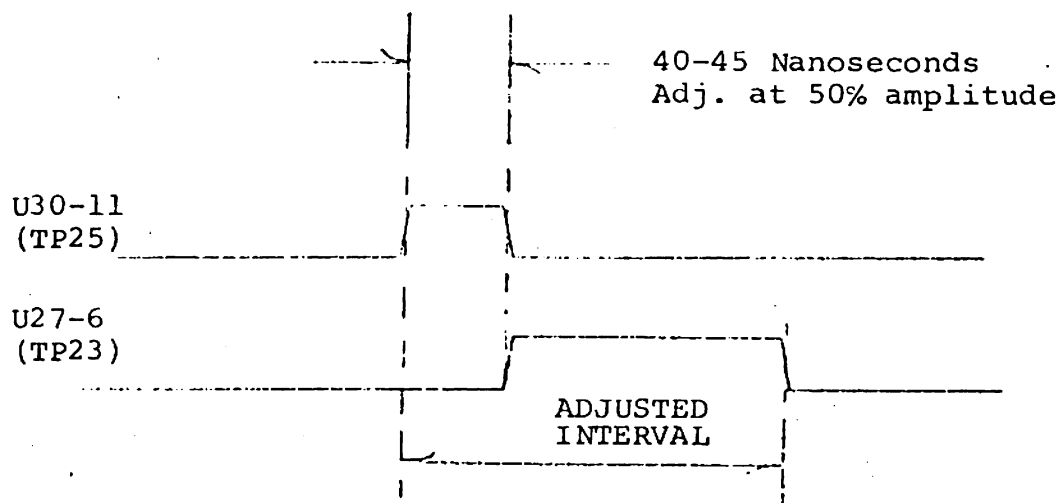

FIG. 1
- 2.5 While reading, adjust potentiometer R115 as follows (Ref Fig 1)
(Ref Fig 1)